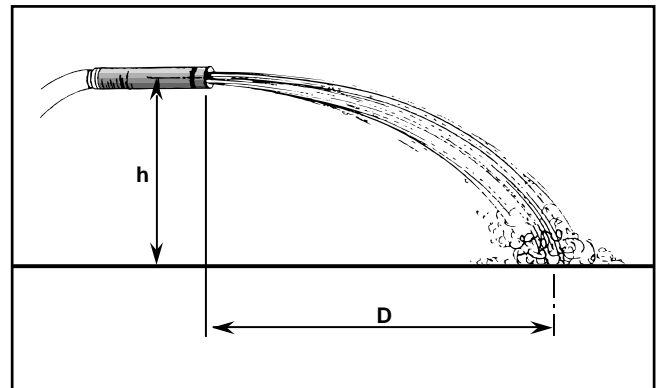

Figure C1—Relation of pipe exit to "h" and "D"
D. Measure the distance ("D") along the ground from the end of the pipe to where the water hits the ground. At the time of the measurement, the hose must be running full of water. Let a plumb bob hang from the pipe exit down to the ground. Start measuring "D" at this point. (See figure C1.)